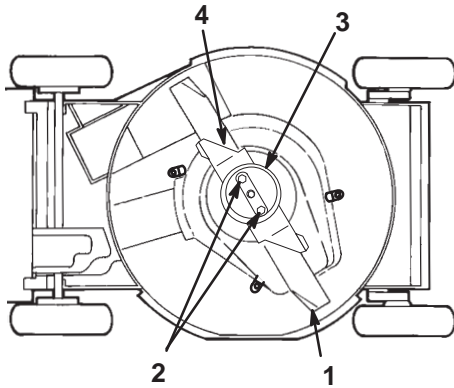

Figure 24
2. Remove the blade nuts, the anti-scalp cup, the blade accelerator, and the blade (Fig. 24).
1. Install a sharp, balanced Exmark blade, the blade accelerator, the anti-scalp cup, and the blade nuts (Fig. 24).